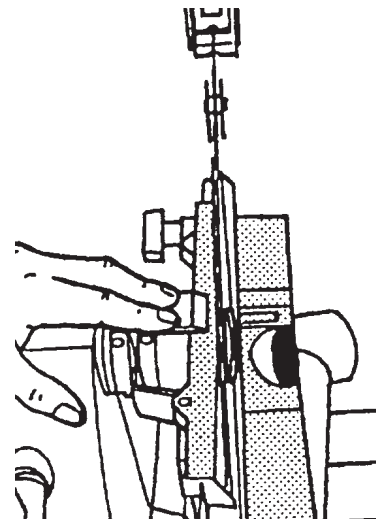

Figure 104
4. Tighten the Guard Lock Knob. Look to see if the Riving Knife is centered with the Saw Blade, as shown in Figure 104.